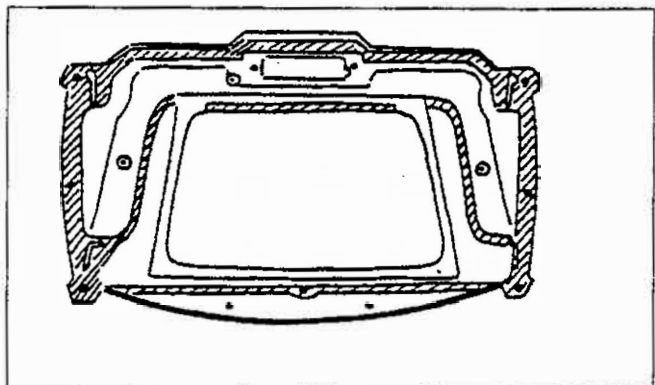

Figure 6. Bottom
6. Cement all the channels, flanges and mating surfaces indicated in **Figure 6**. Keep the cement off the thermostat cable.